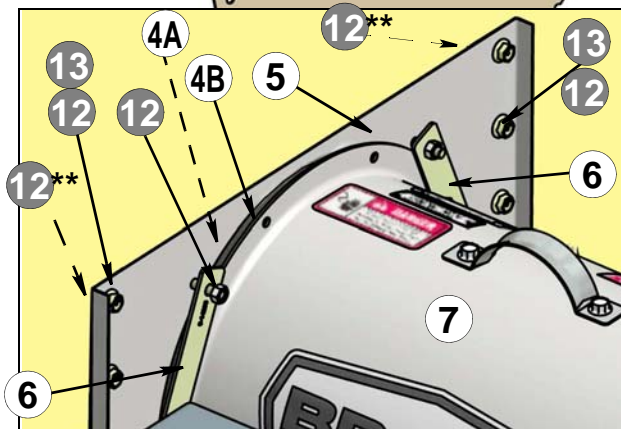

Figure 4. Gasket and Strap Detail
1. Cut two (2) pieces of adhesive 3/8" x 1" Pres-Stik Seal each at 44" [1118]. Form one piece into a circular gasket (Item 4A). Press around the cut 12" hole on the Hopper Panel exterior. Butt ends of the strip; trim excess.
2. Insert twelve (12) 5/16 x 1" Bin Seal Bolts (Item 13), heads **inside**, through the twelve (12) holes drilled in the Hopper Panel for Mounting Plate sides (dimension G above).
4. Align the Mounting Plate (Item 5), side flanges out, over the center hole and side Bolts. Secure with (12) Hex Nuts (Item 12). Tighten the Nuts evenly.
5. Form and press the second 44" Pres-Stik strip to form a circular seal (Item 4B) inside the six (6) Weldbolts (Item 14) around the Mounting Plate center hole. Butt ends of the strip; trim excess.
7. On top of the Fan flange (**Figure 4**), connect two (2) Mounting Straps (Item 6) over a *center Weldbolt. Spread Straps so end holes align over Weldbolts above and below. Repeat with a pair of Straps on the other side.
8. Secure the Weldbolt-Fan-Strap connection with six (6) Hex Nuts (Item 12). See **Figure 4**.